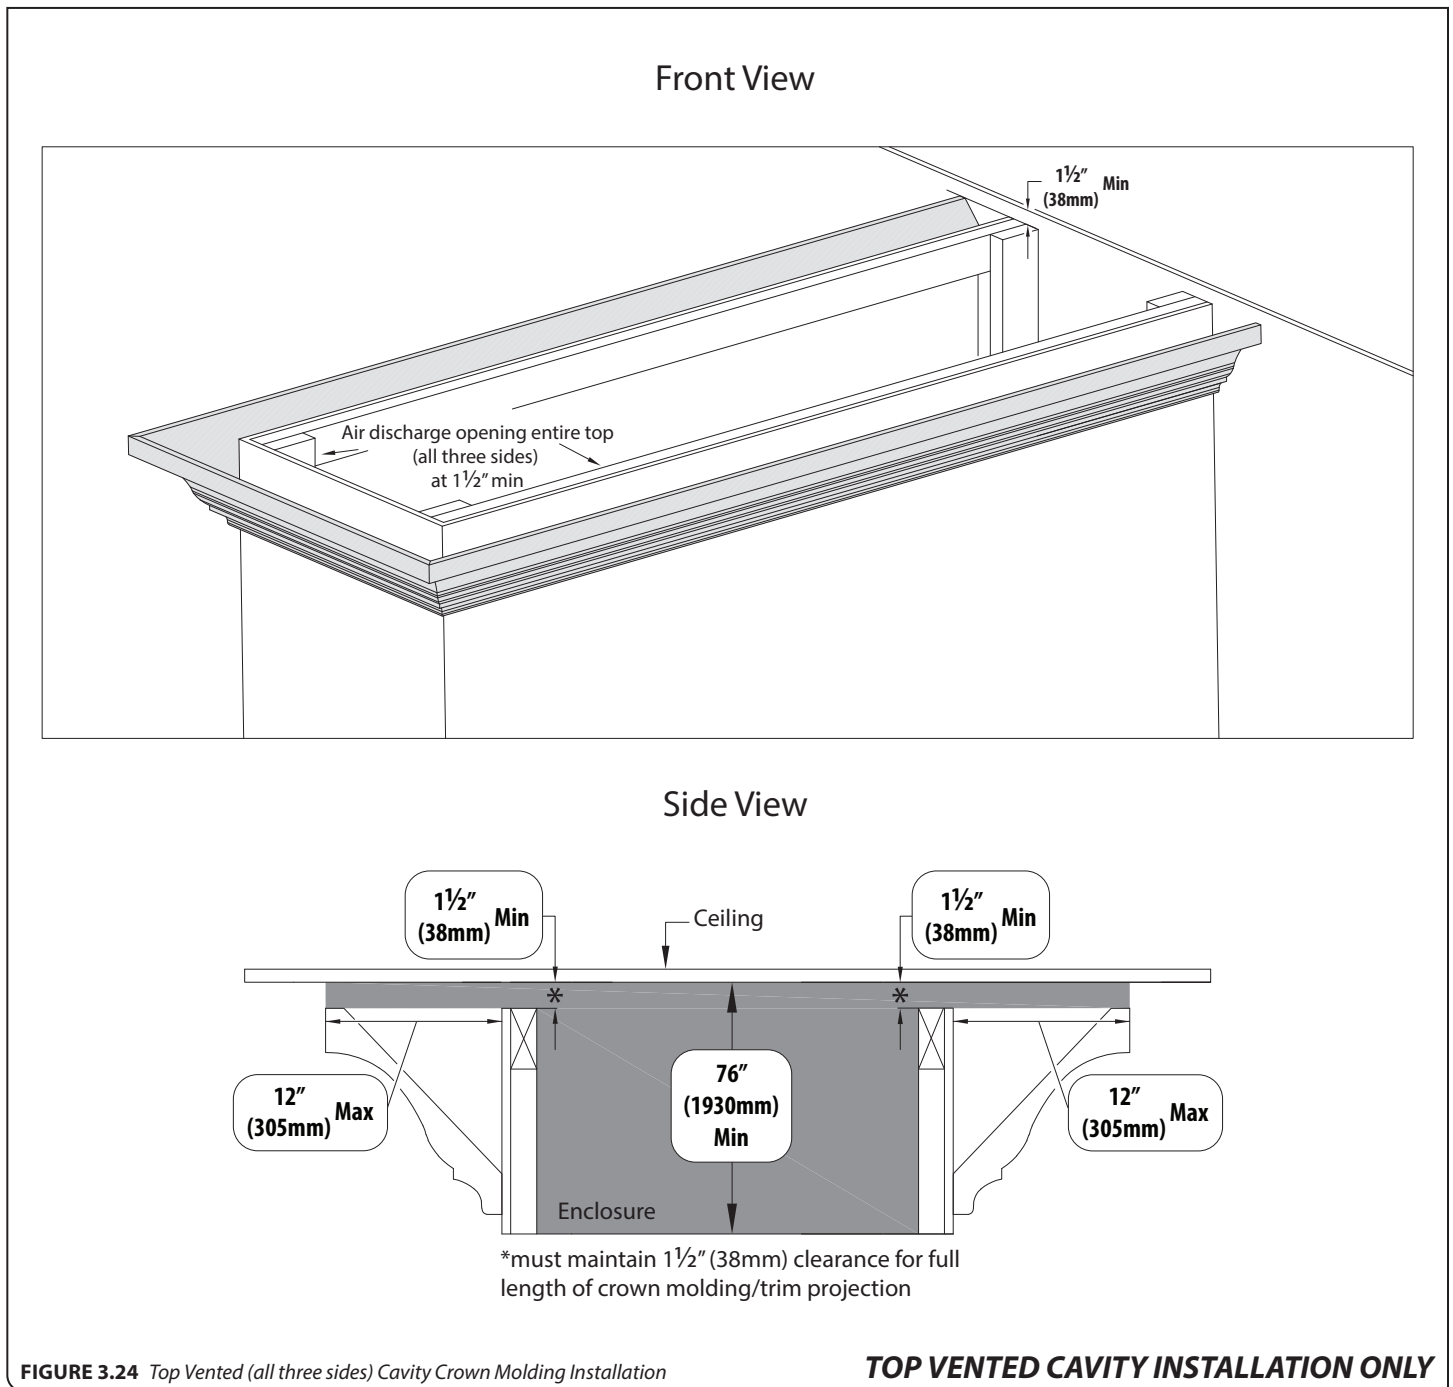

FIGURE 3.24 Top Vented (all three sides) Cavity Crown Molding Installation
- FIGURE 3.24 shows the installation of crown molding or similar trim work that goes up to the edge of the air discharge opening. 12" (305mm) is the maximum length of the molding or trim projection and you must maintain 1-1/2" (38mm) clearance for the full length of crown molding/trim projection. This molding or trim cannot decrease the minimum opening requirement.